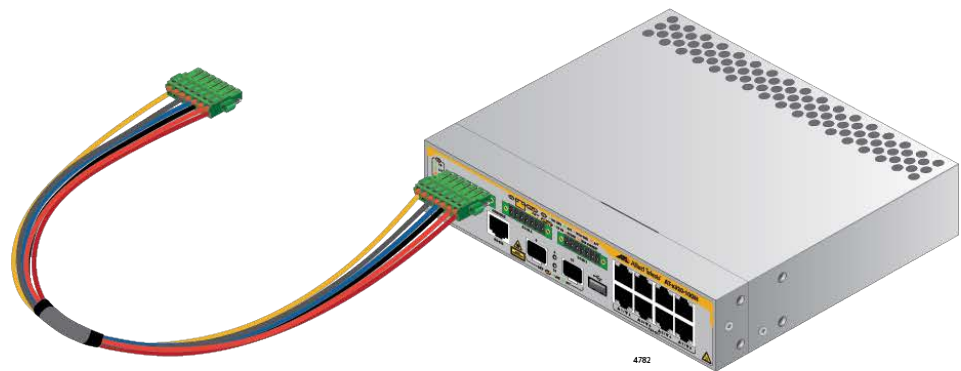

Figure 62. Connecting the External Harness to the x320-10GH Switch
2. Connect one end of the external harness to the x320-10GH switch. Refer to Figure 62.